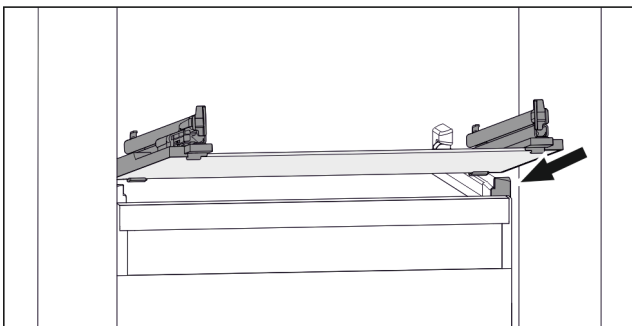

Fig. 122 Example illustration of glass shelf
- ▶ Position glass shelf at an angle behind the stoppers. (see Fig. 122)